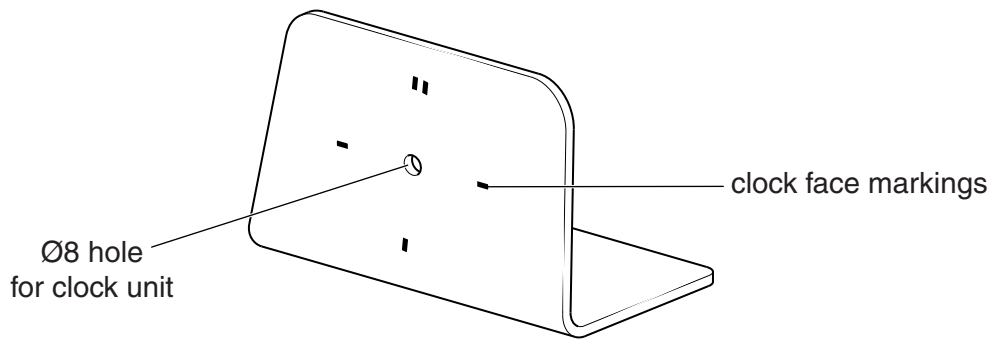

Fig. 2
- 2 Fig. 2 shows a clock body made in a school workshop from 5 mm thick acrylic sheet.
- (a) Give **two** reasons why acrylic sheet is a suitable material for the clock body shown in Fig. 2.